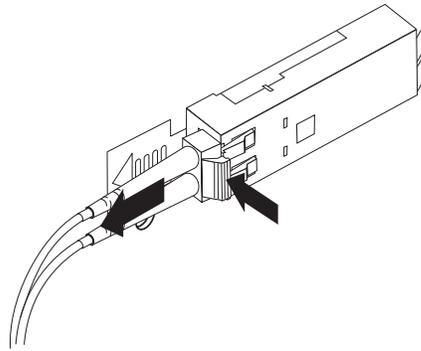

Figure 31. Removing the LC-LC fibre-channel cable
2. Carefully pull on the connector to remove the cable from the SFP module, as shown in Figure 31 on page 45.